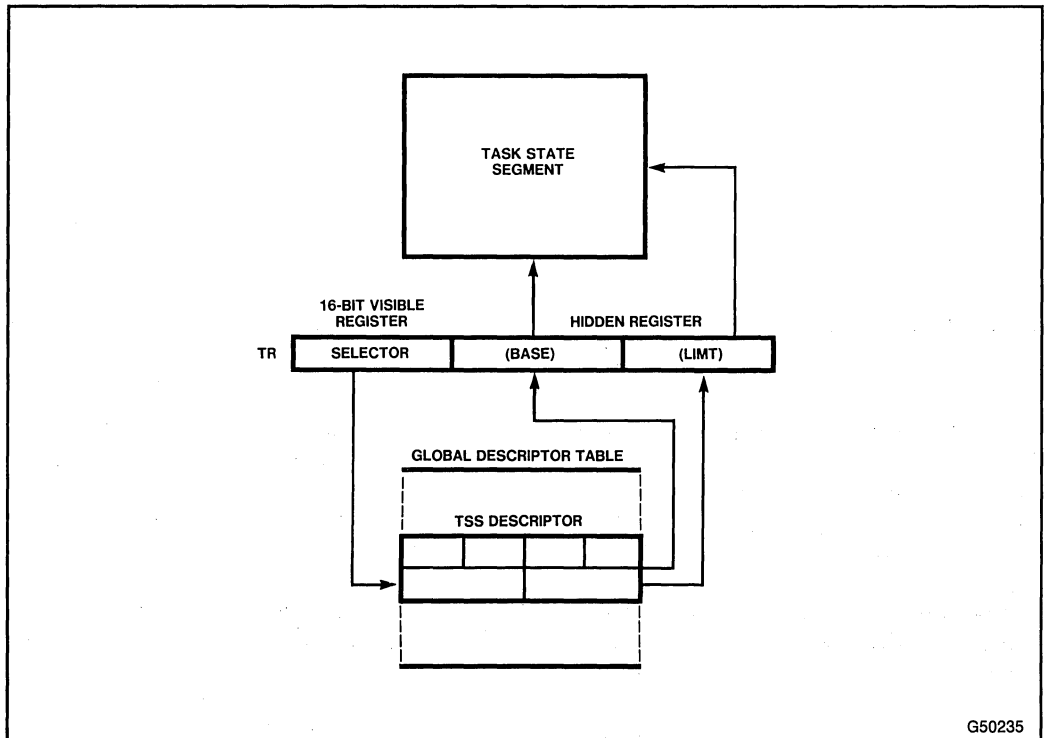

Figure 6-3. TR Register
The task register (TR) is used to find the current TSS. Figure 6-3 shows the path by which the processor accesses the TSS.